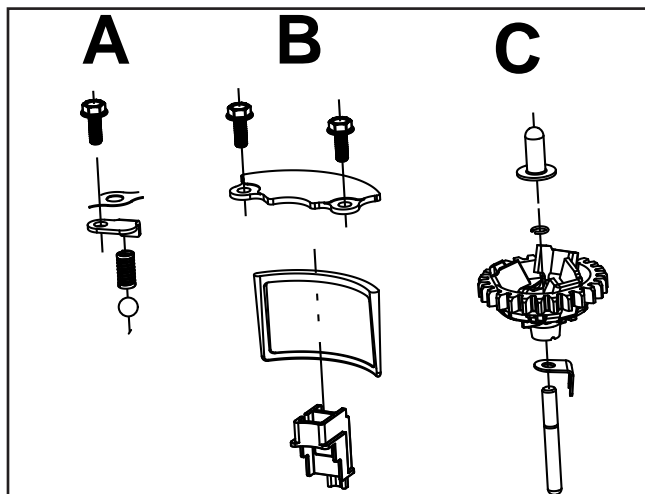

Figure 37
- a. Pressure lube check ball system (A) (Figure 37)
- b. Oil pre-screen assembly (B) (Figure 37)
2. Remove the screen and retainer (Figure 37).
- c. Governor assembly (optional removal) (C) (Figure 37)
- d. Remove the oil deflector (rubber) (D) (Figure 37).